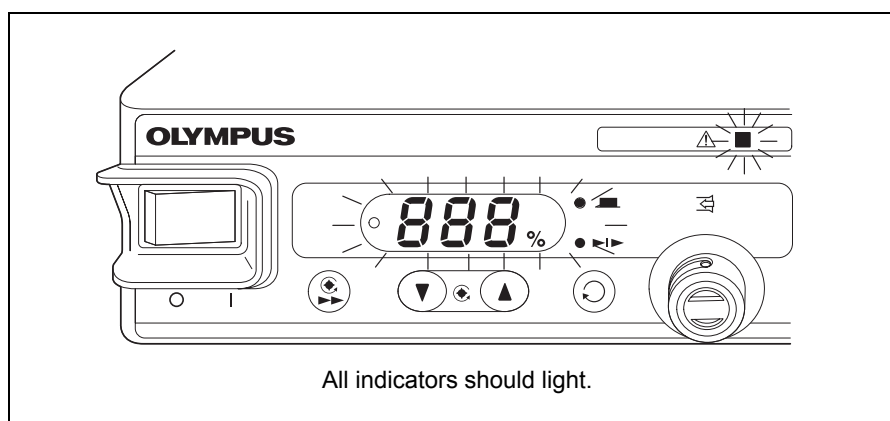

Figure 3.5
- All indicator lamps (irrigation level setting indicator, irrigation indication lamp, communication warning lamp, normal suction mode lamp, laparoscopic suction mode lamp) light for about 2 seconds (see Figure 3.5).